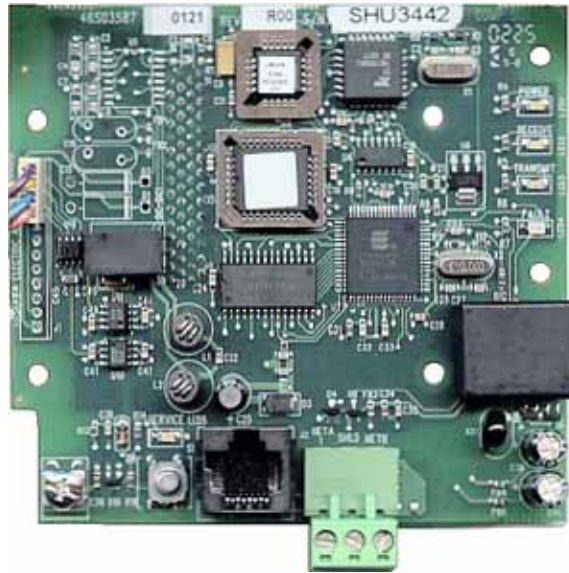

Figure 1.1 –LONWORKS Option
- 1:** Unpack the *LONWORKS Option* and verify that all components are present and undamaged. Refer to **Figure 1.1 – LONWORKS Option** and **Table 1.1 – Product Parts List**.